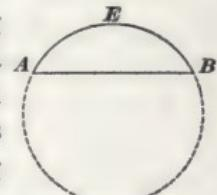

FIG. 42.
**71.** A **chord** is a straight line joining any two points in a circumference; or it is a straight line joining the extremities of an arc; thus, the straight line  $A B$ , Fig. 42, is a chord of the circle whose corresponding arc is  $A E B$ .